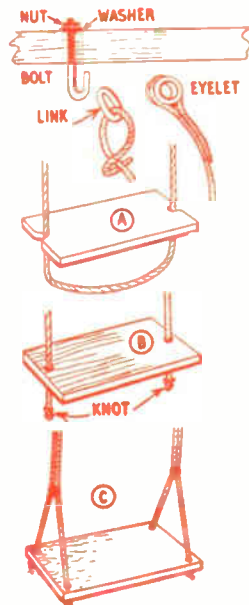

Fig. 5
The ropes are fixed to the cross bar by means of bolts turned at the ends as shown in Fig. 5. Use long bolts and cut off the heads with a hacksaw. Heat and turn to the required shape. Chain links or eyelets with the ropes attached are
The seat is cut from  $\frac{3}{4}$ in. thick hardwood, and measures 21ins. by 10ins. It may be attached to the ropes by either of the methods shown in Fig. 5. For small children, method (C) gives a better